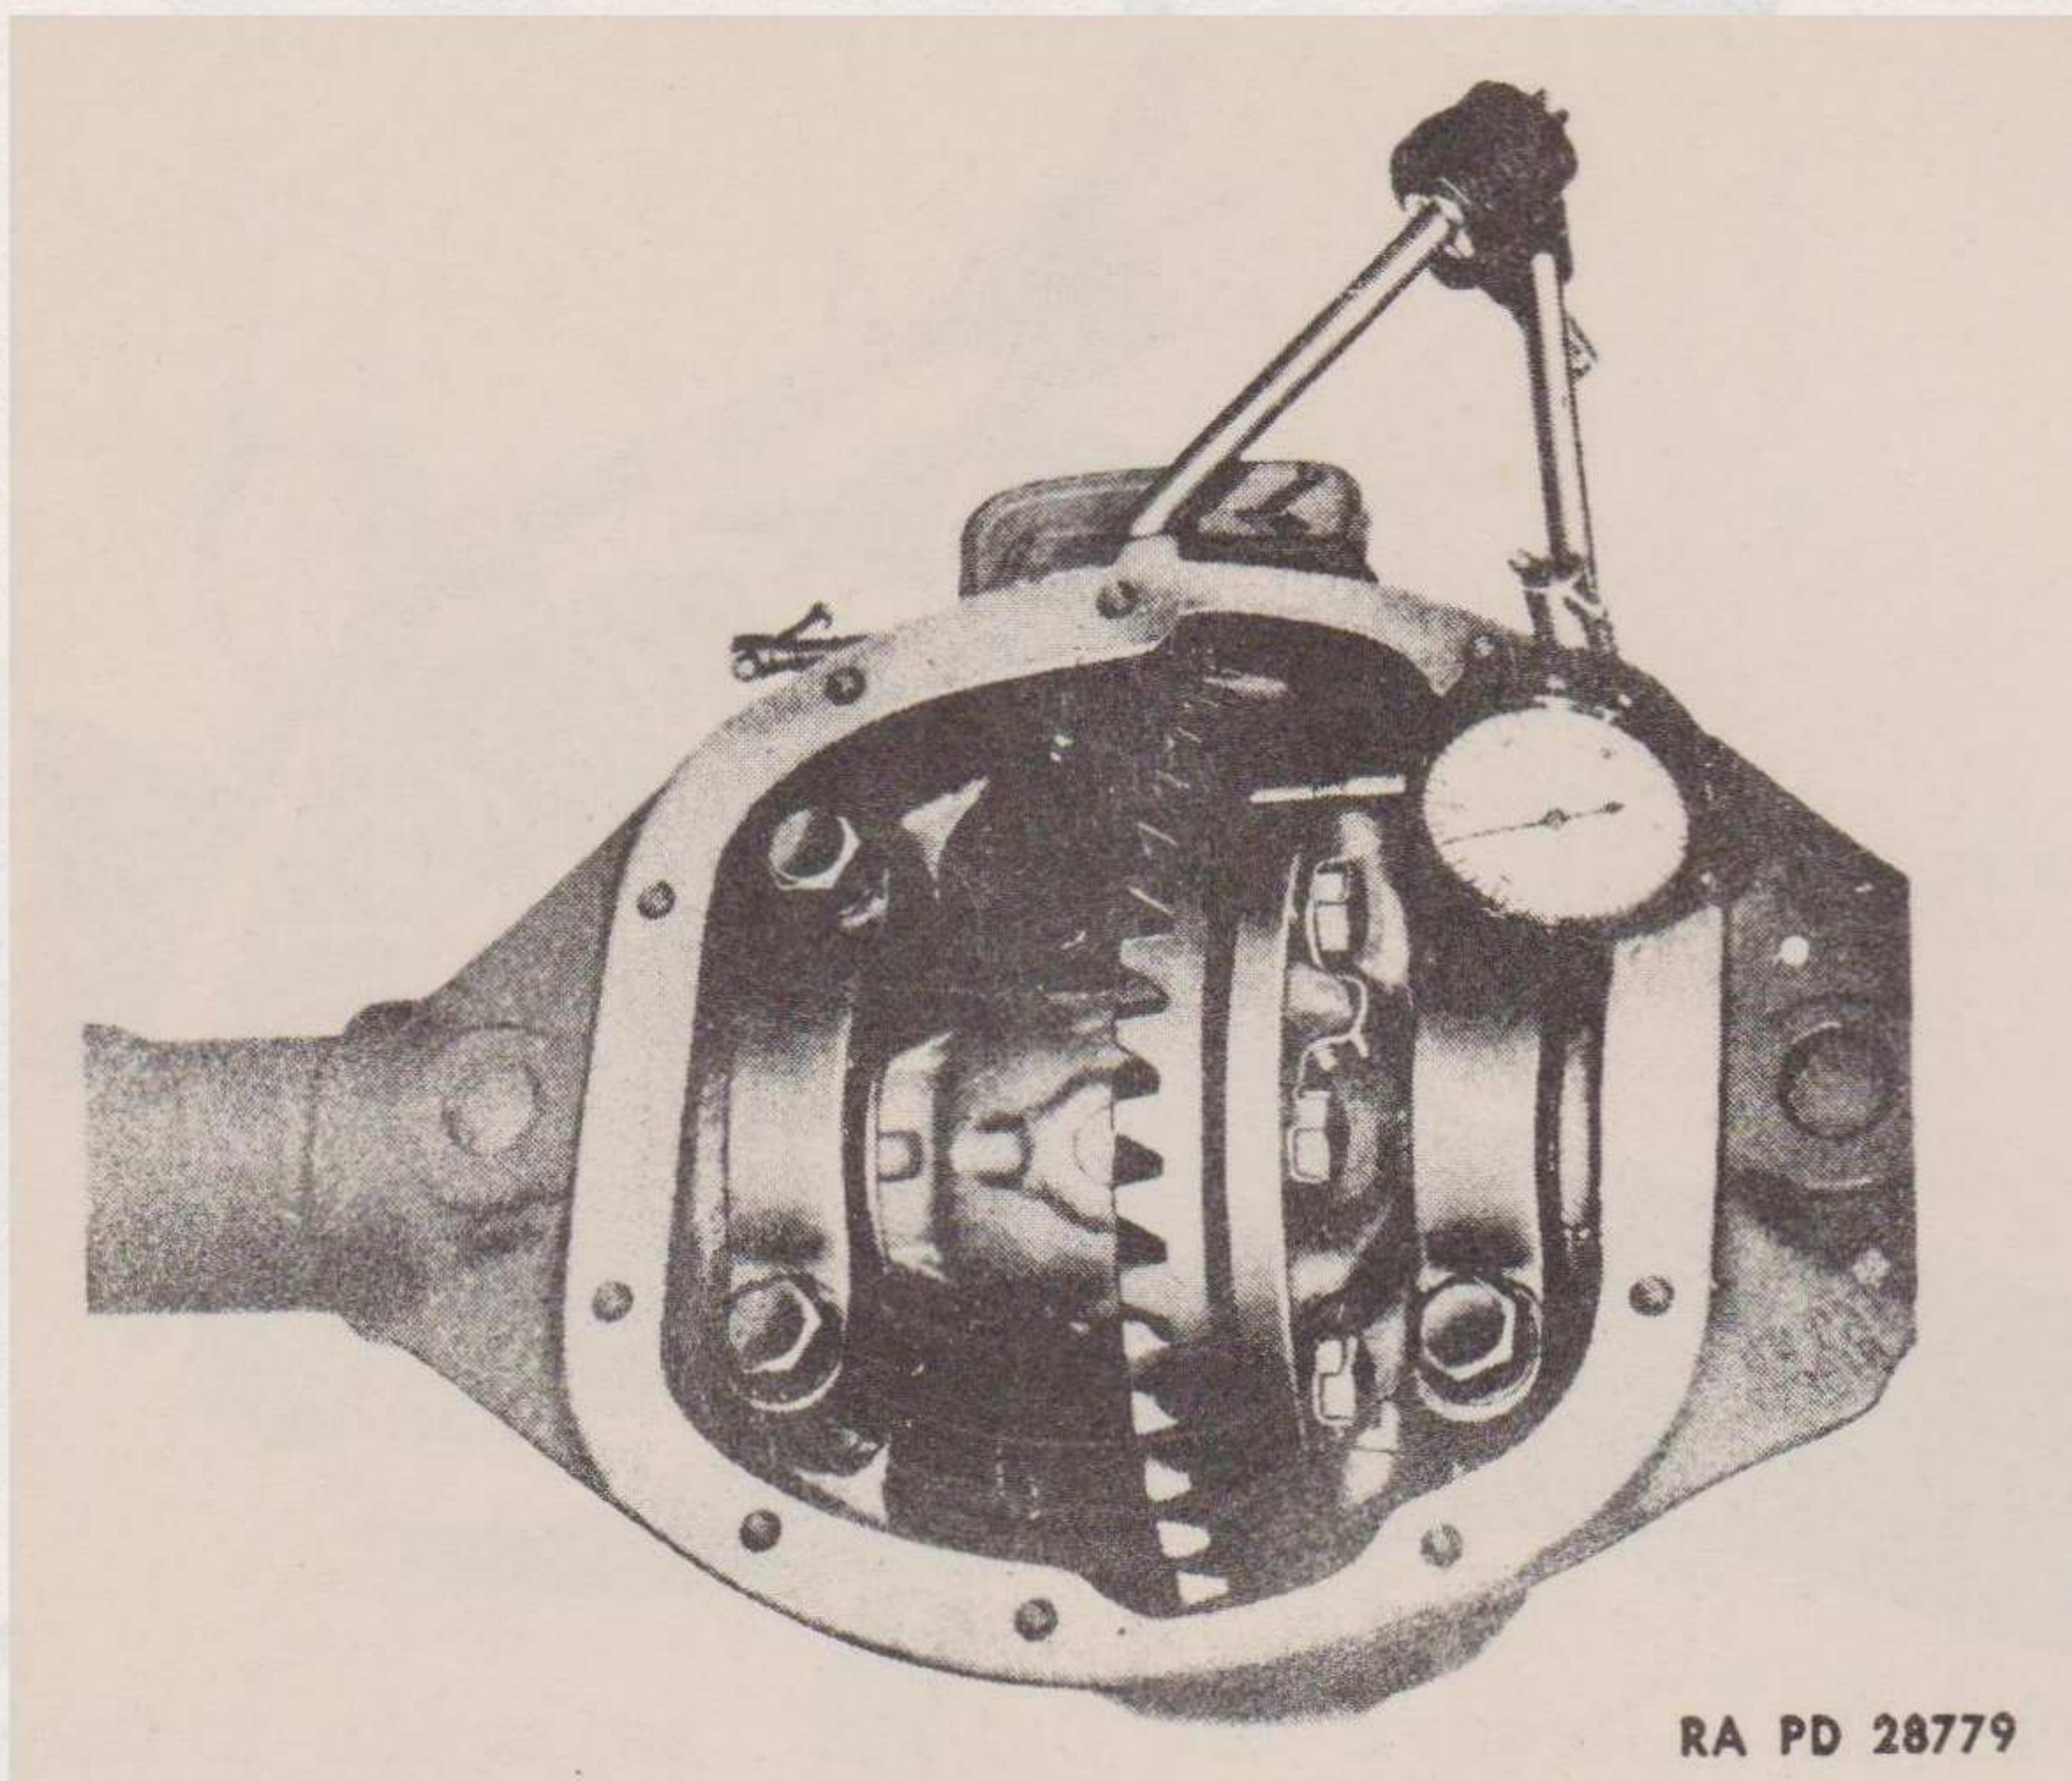

Figure 71 —Checking Ring Gear Run-out With Dial Indicator 41-I-100
k. **Check Ring Gear Run-out (fig. 71).** Install a dial indicator on the differential housing so that the indicator contact is resting on the flat side of the ring gear as shown in figure 71. Turn the pinion drive flange by hand to determine the run-out on the ring gear. The run-out should not exceed 0.003 inch. If the run-out is more than 0.003 inch, remove the differential assembly from the housing (par. 24 e), and remove the ring gear from the differential case. Check the surface of the differential case and the ring gear for chips or small nicks, which might have occurred during the assembly of the differential. If any small nicks are found, remove them with a fine stone, also check the flange on the differential case for being sprung. Reinstall the differential assembly in the housing (subpar. h, above) and recheck the ring gear run-out.